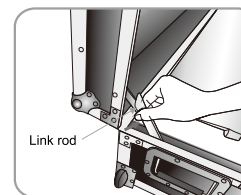

Figure 41
9. Pull up the flight case corner link rod, close the flight case and fasten it (Figure 41 - 42).